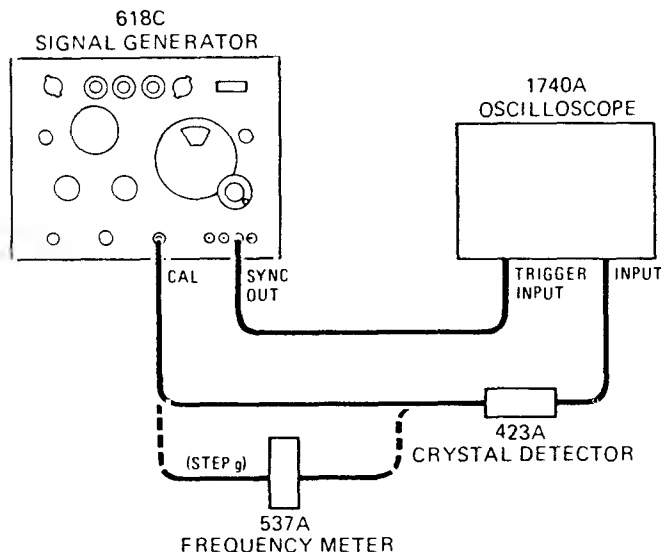
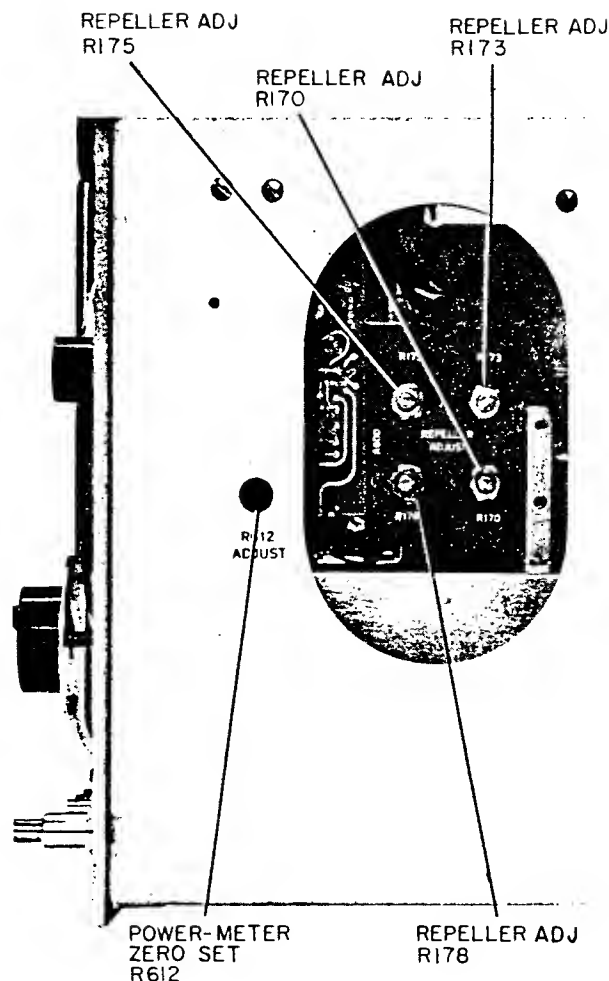
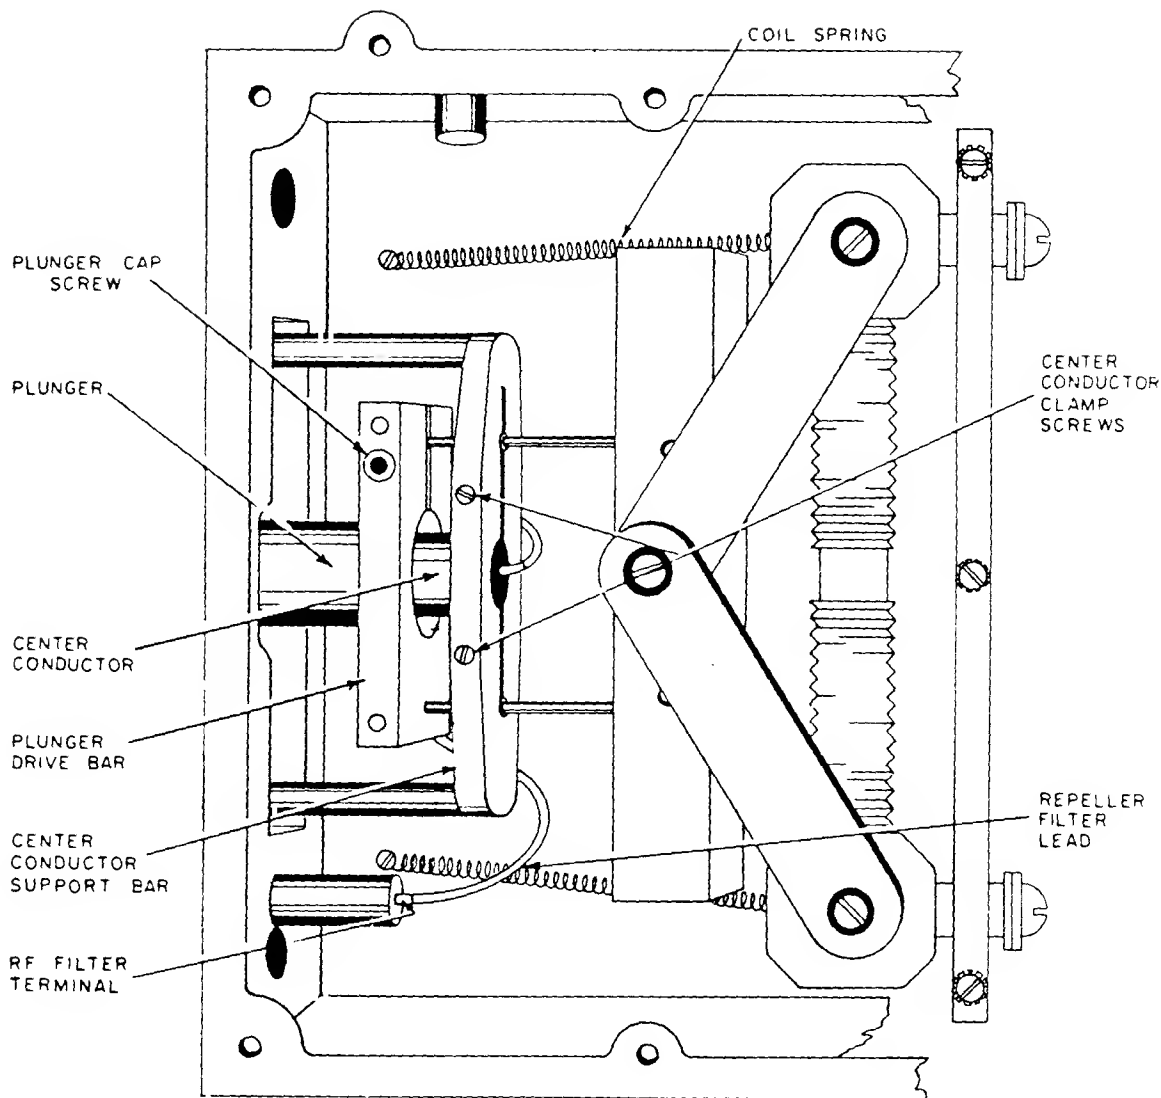

Figure 5-9. Setup for Frequency Dial Calibration (618C)
Figure 5-11. Location of Tracking and Power-Set Meter Adjustments
Figure 5-13. Frequency Drive Mechanism, Cover Plate Removed (620B)
- d. Connect instrument as shown in Figure 5-9.
- g. At this point it is advisable to check the dial calibration at the high end stop. This check avoids possible retracking adjustments when the dial calibration is adjusted later. To conduct the check, tune frequency control to high end stop and place wavemeter in circuit as shown in Figure 5-9. Wavemeter should indicate 7.650 GHz. When the wavemeter is tuned to the actual frequency of the generator a slight decrease in the peak level of the pulse appears on the scale. If this frequency is more than 25 MHz away from 7.650 GHz perform step d in paragraph 5-34.
- h. Remove wavemeter and reconnect output cable as shown in Figure 5-9. Tune the frequency control toward 5 GHz, adjusting R170 (Figure 5-11) for best pulse shape between 7.6 and 5 GHz.
- i. Tune the frequency control between 5 and 4.2 GHz; adjust R173 and/or R178 (Figure 5-11) for optimum pulse shape.
- e. Adjust POWER SET control to obtain up-scale indication on the power set meter. If necessary, adjust potentiometer R170 (Figure 5-11) to obtain proper meter indication. Recheck klystron beam current (25 mA maximum).
n. Measure Signal Generator output frequency with Frequency Meter. If the measured frequency is below 11.1 GHz, remove bottom plate from frequency drive mechanism and perform (1) through (4) following; if not, perform (5) through (9) following:
- (1) Loosen plunger cap screw (Figure 5-13).
- (2) Adjust Frequency Meter to 11.1 GHz.
- (3) Gently tap rear of plunger until Frequency Meter dip is centered on mode pattern.
- (4) Tighten plunger cap screw and replace bottom plate.
- (5) Set Frequency Meter to 11.1 GHz.
- (6) Adjust frequency dial until Frequency Meter pattern is centered on the mode pattern.
- (7) Loosen plunger cap screw.
- (8) Turn frequency dial to high frequency stop while holding plunger stationary.
- (9) Tighten plunger cap screw and replace bottom plate.
p. Tune Signal Generator across entire band and center repeller mode pattern with repeller tracking potentiometer R170, R173, R175, and R178 (Figure 5-9). Figure 5-12 (A and C) shows two typical mode patterns. Figure 5-12A shows a symmetrical mode pattern that is properly centered by the correct repeller voltage; Figure 5-12B shows the same pattern set off-center by incorrect setting of repeller voltage. Adjust potentiometer R170 and R178 (Figure 5-11) to obtain correct repeller voltage tracking between 11 GHz and the frequency just above the point where the microswitch is actuated (approximately 8.7 to 9 GHz). Adjust potentiometers R173 and R175 (Figure 5-11) to obtain correct repeller voltage tracking between the frequency just below the point where the microswitch is actuated (approximately 8.6 GHz) and 7 GHz.
h. Refer to Figure 5-13 and loosen the cap screw holding the plunger in the plunger-drive bar.
- a. Remove instrument cover for access to R612 (see Figure 5-11).
- c. Adjust POWER SET until meter pointer is about 3/8 inch to the right of zero (0).